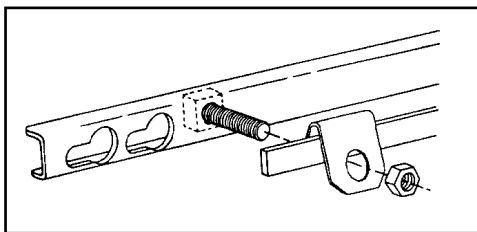

FIGURE 29 - PROPER ALIGNMENT OF PARTS
13.03 For external bonding, the bolt bonding clip, and nut must be applied to the front (keyhole) LOCKBAR Assembly before mating it with the back LOCKBAR Assembly. Special holes are provided on either side of the front LOCKBAR Assembly for this purpose. The bolt head is applied inside the LOCKBAR Channel. The bonding clip and nut are applied to the bolt on the outside LOCKBAR Assembly face. Refer to Figure 29 for proper alignment of parts.